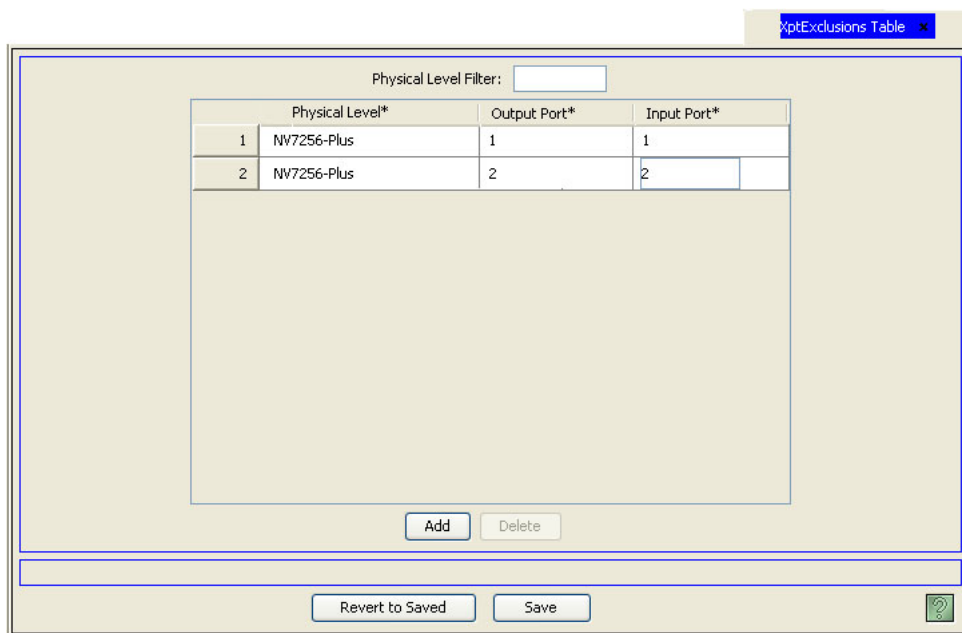

Figure 7-33. XPT Exclusion Table
- 2 From the Navigation area, select the 'Views' pane and then 'XPTExclusions'. The 'XPTExclusions' table displays, as shown in Figure 7-33.